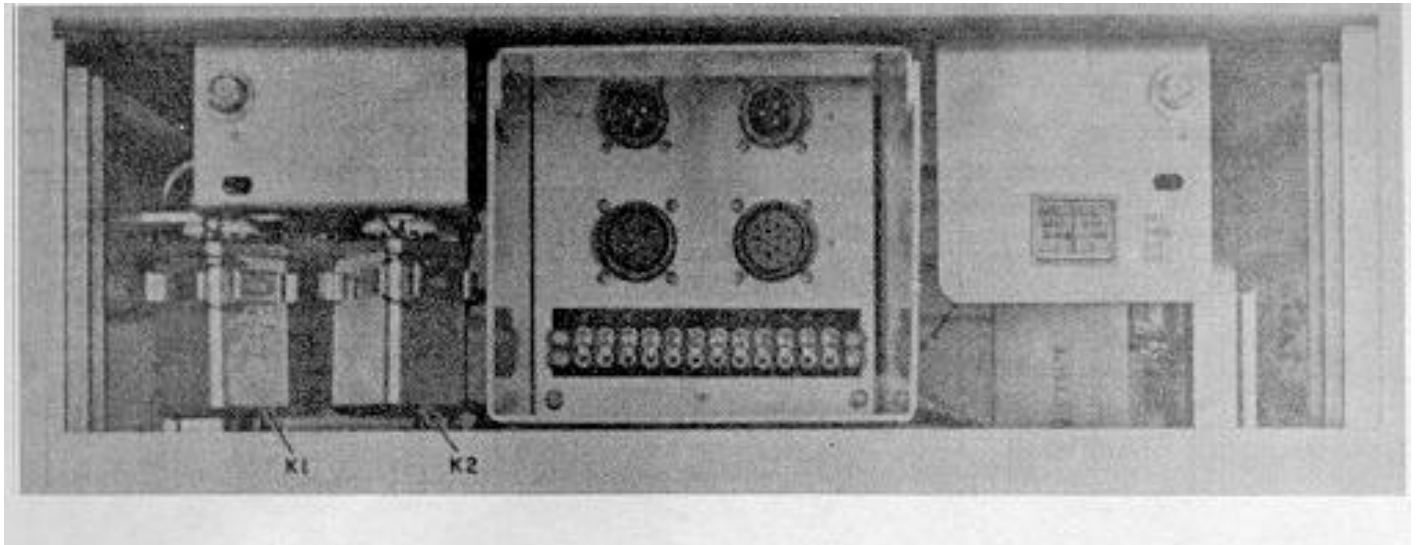

Figure 2-3. Line-Of-Sight Receiver Cabinet Distribution Box
- a. Cable W40 to AC POWER jack J1 in distribution box behind Distribution Panel. (See figures 2-3 and 2-4.)